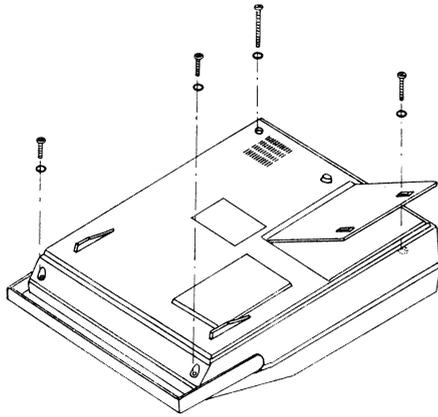

Fig. 1
2. Remove the four phillips-head screw holding the bottom lid (Fig. 1)